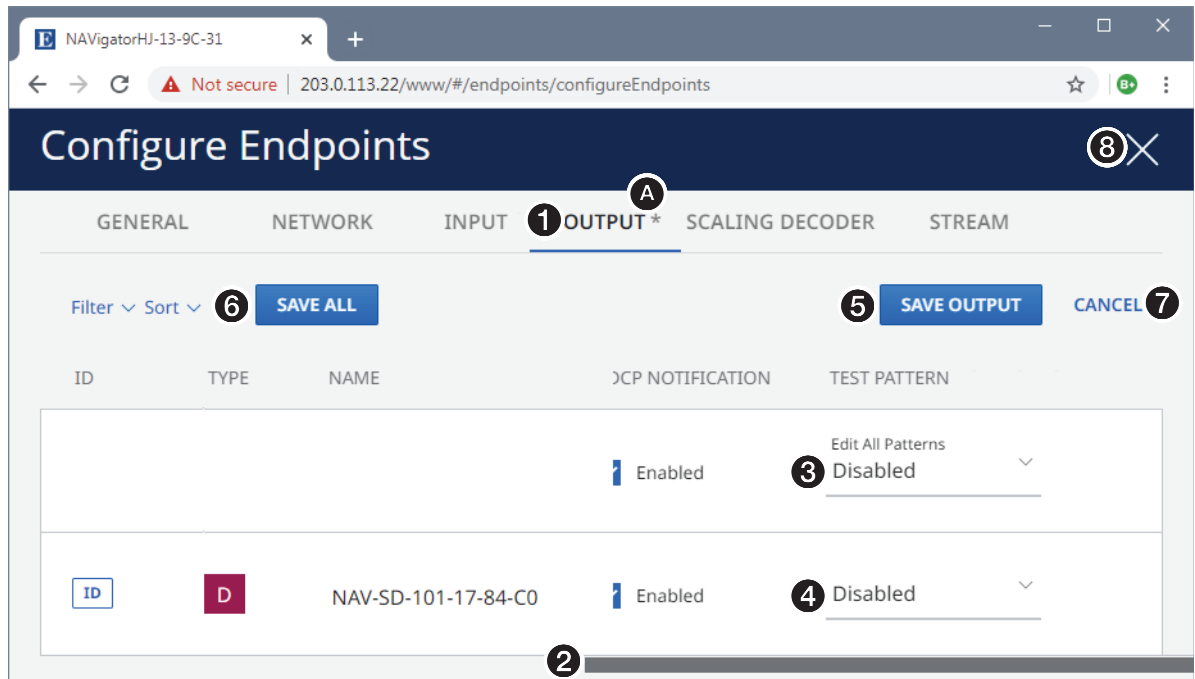

Figure 41. Configure Test Pattern
1. Click the **Output** tab (see figure 41, ①).